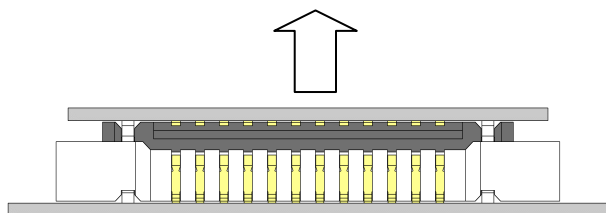

Fig7
1. 嵌合後の基板(コネクタ)の離脱は、コネクタに近い部分を持って基板面に対して垂直に引抜き抜いて下さい。(Fig.7,8)
1. Remove of the Board (Connector) after mated has a portion near Connector, and please draw it out perpendicularly to a Board. (Refer to Fig.7, 8)